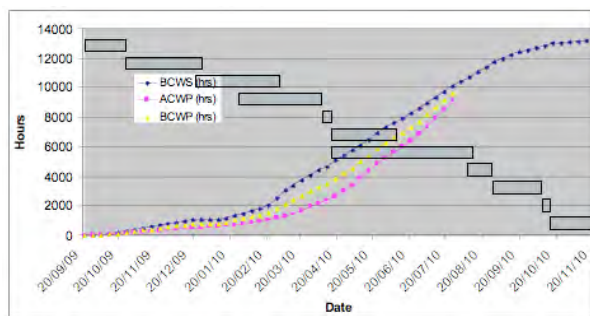

Figure 6d. Record the Cumulative Achievement (the Achievement metric)
Figure 6d illustrates this important component: the cumulative achievement (Achievement): Budgeted Cost of Work Performed (BCWP). BCWP is also known (informally) as "earned value" (EV).